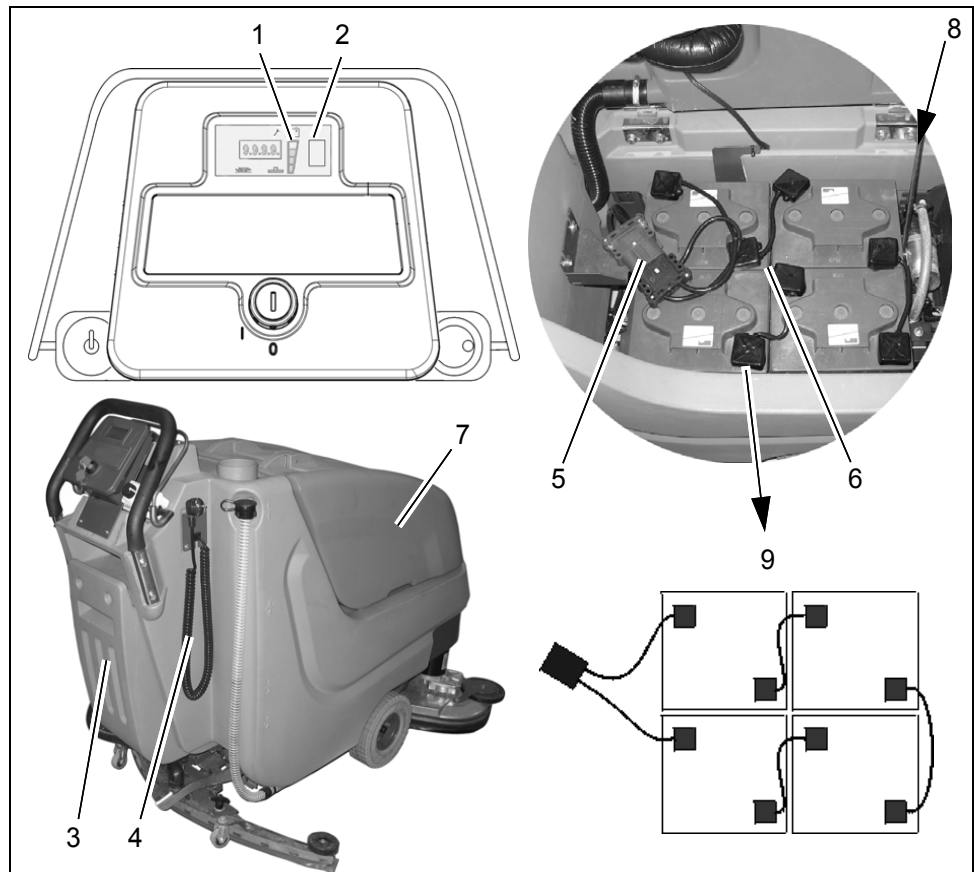

Fig.6
Use the integrated battery charger (Fig. 6/3) to charge batteries. Proceed to connection of the charger by means of the mains cable (Fig. 6/4) with safety plug. Charging batteries is recommended if at least one bar of the LDS display has extinguished after operation of the machine. On this behalf you are requested to observe the operating instructions of the charger 88-60-2723 as well as the operating instructions of the battery manufacturer. In case it is intended to change the type of battery the charger has to be adjusted only by Bortek contract workshops.
3. Open empty recovery tank (Fig. 6/7) and secure by support (Fig. 6/8).
4. Disconnect battery connector (Fig. 6/5).
2. Open empty recovery tank (Fig. 6/7) and secure by support (Fig. 6/8).
4. Connect battery poles and enclosed connecting cables according to wiring diagram (Fig. 6/9). Provide for tight fitting and grease poles.